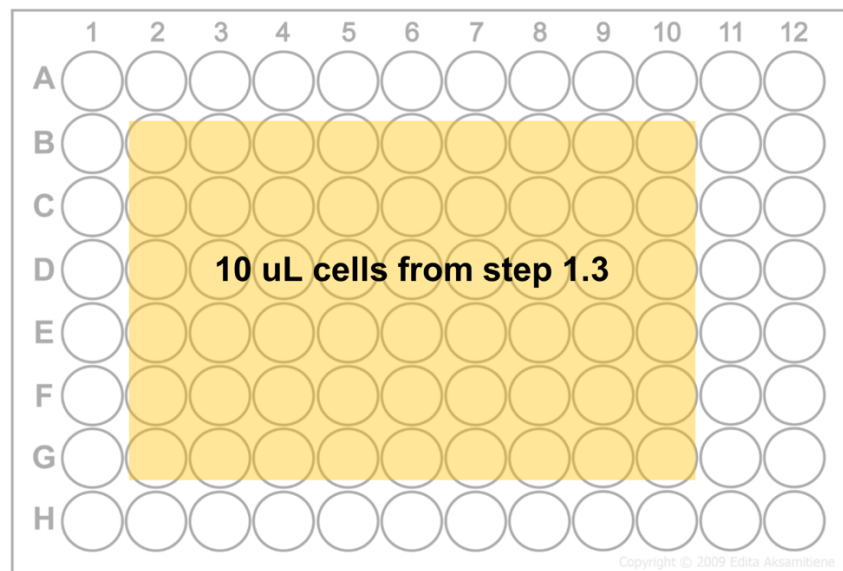

Figure 2. Step 3.3 well plate filling schematic.
3.3. Vortex the culture from part 1.3. Add 10 μL of the culture to each well in columns 2-10 rows B-G. This is shown in figure 2.